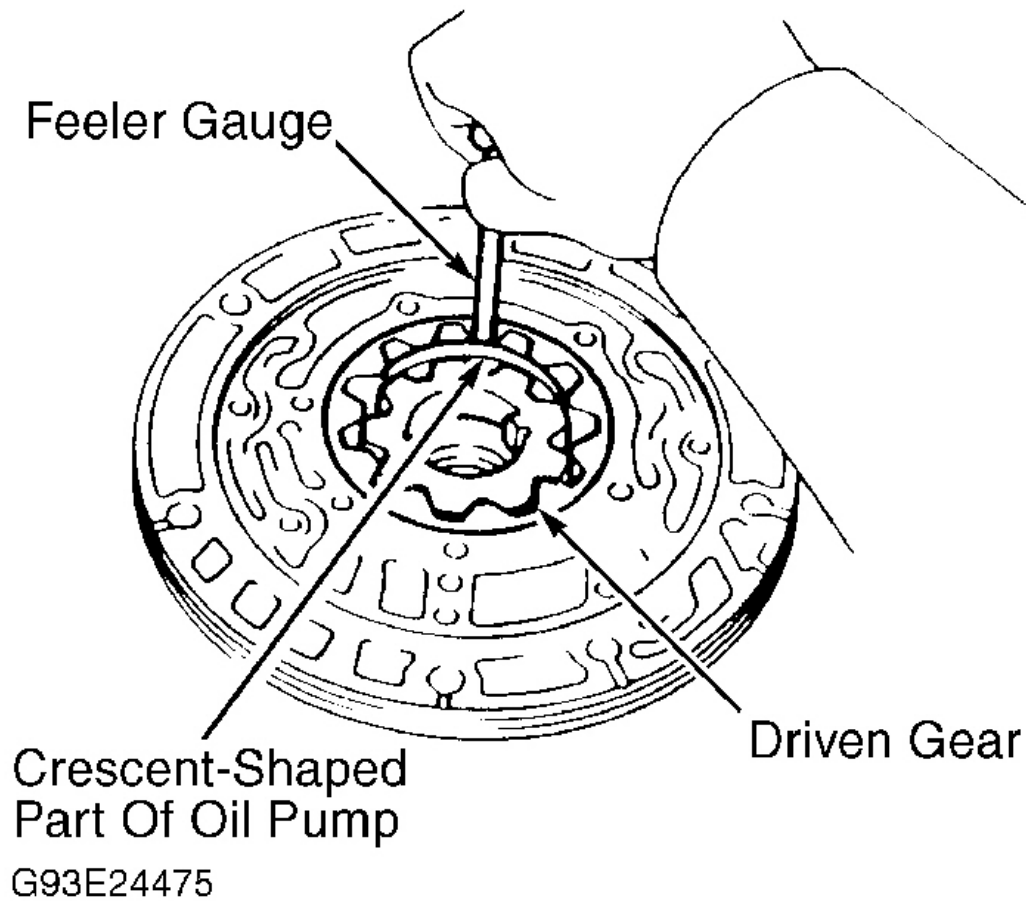

Fig. 22: Checking Oil Pump Gear Tip Clearance
2. Measure tip clearance between driven gear and crescent-shaped part of oil pump body. See **Fig. 22**. Replace oil pump body if clearance is not within specification. See **OIL PUMP CLEARANCE SPECIFICATIONS**.